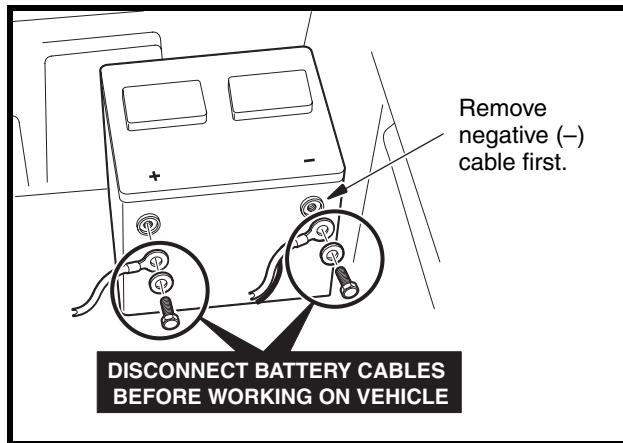

Figure 1-1 Battery Cable Removal
- Disconnect battery cables, negative (–) cable first (Figure 1-1, Page 1-3).